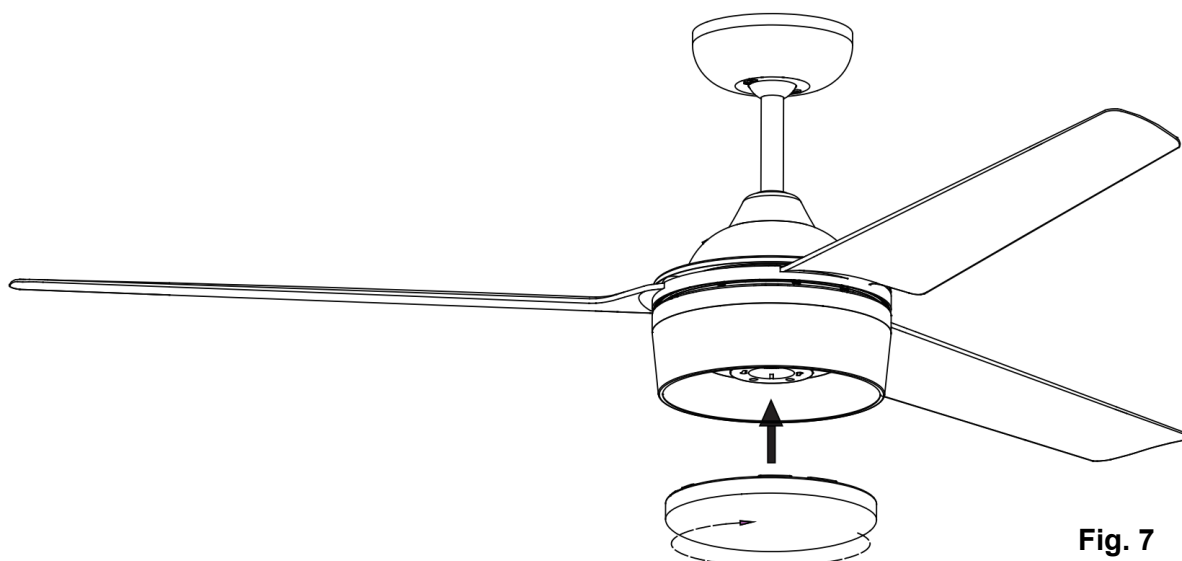

Fig. 7
INSTALLATION OF LAMP (Fig. 7)
- Install the GX53 lamp on the fan assembly then secure it by turning clockwise. (Fig. 7)